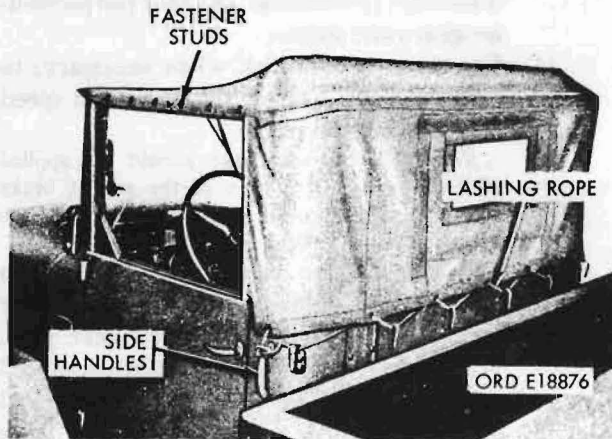

Figure 106. Paulin cab top holddown components.
- (1) Release the lashing rope from the side handles and from the hooks at the rear of the cab. Release the paulin from the fastener studs in the side-roof rails (fig. 106).